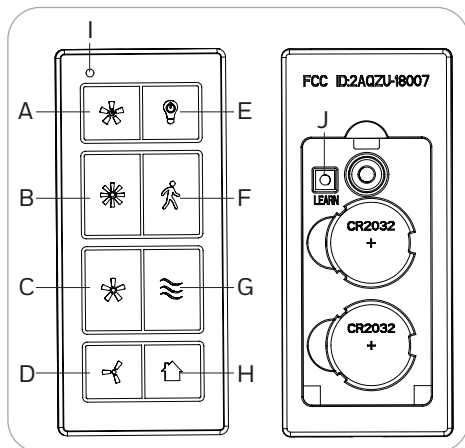

Figure 6.1
- To operate the fan using the remote, press and release the following buttons (Figure 6.1):